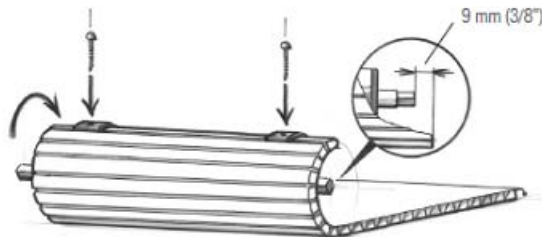

Fig. 6
3. Line up the spring-loaded roller and position it until the distance between the right edge of the tambour door profile and the rigid edge of the spring-loaded roller marked with an "R" is 9 mm (3/8") as shown in Fig. 6.